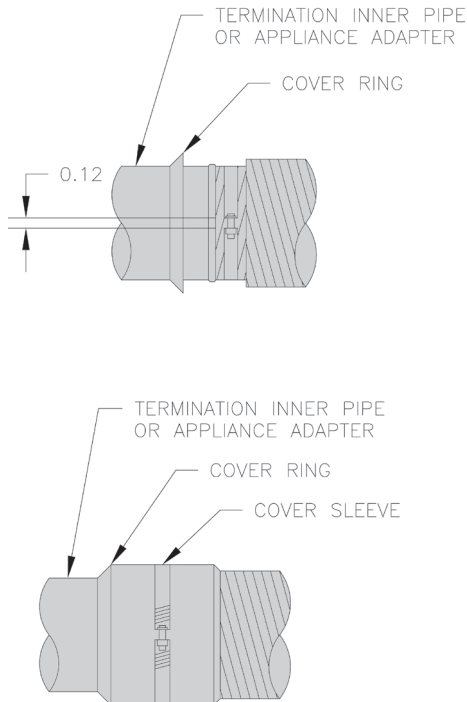

Figure 24: Vent Pipe Assembly to Vent Termination Inner Pipe & Appliance Adapter
- Tighten the inner pipe clamp bolts at both vent pipe ends, until clamp halves are within 1/8" apart. See Figure 24.
- Starting with vent termination end, slide the cover sleeve assembly and the cover ring together to engage the ring in the groove of the sleeve, then, tighten the built-in cover sleeve clamp. Repeat above steps at the boiler end. See Figure 24.